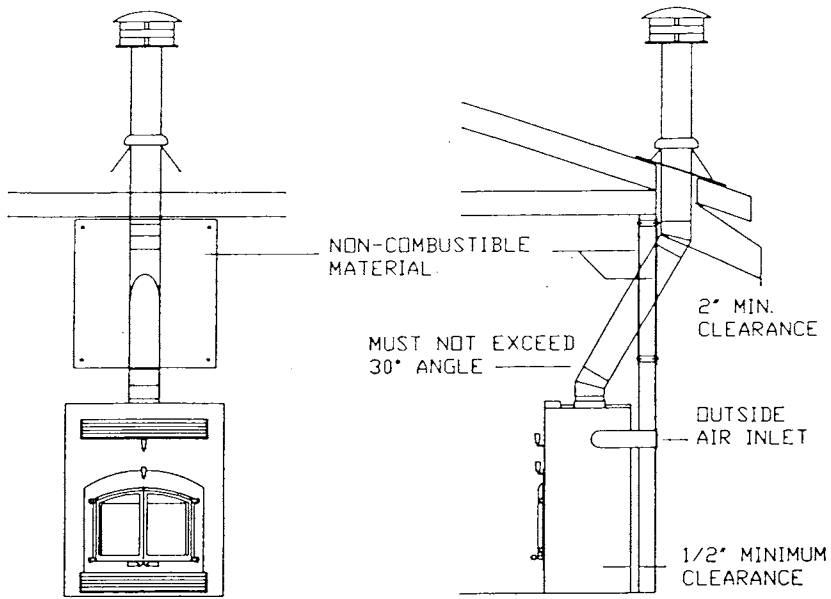

FIG. 5A
1. Install the chimney in accordance to the chimney manufacturer's installation instructions. The chimney must be a minimum of 10' tall above the fireplace and must extend a minimum of 3 ft. above the highest point where it passes through the roof and at least 2 ft. higher than any portion of a building within 10 ft.. See Figure 5A & B.